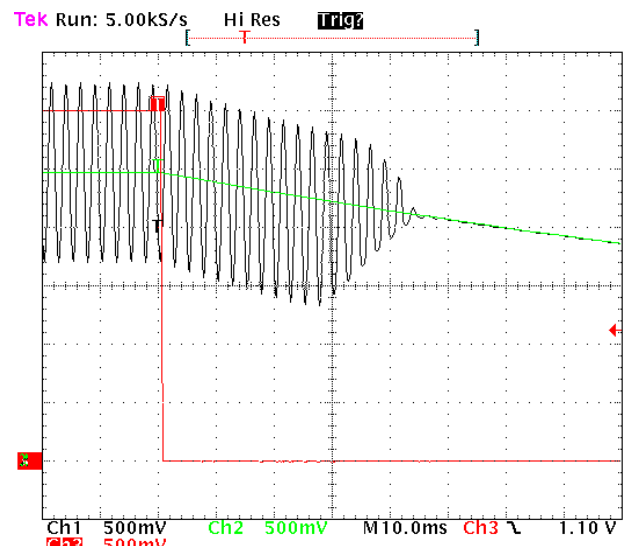

Figure 41. TurningOff Time Zoom/ $V_p = 5.0$ V
– 50 ms later the audio signal is cut off as the gain is turned to zero internally as shown in Figure 41.